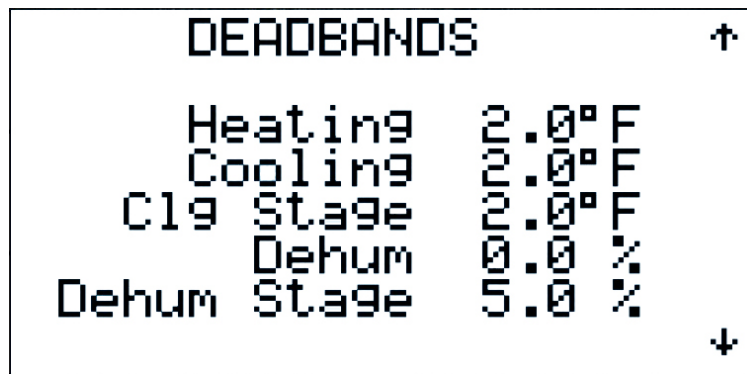

Figure 53
2.3.3.2 Tuning – Dead Bands (Figure 53)
Selecting TUNING from the SERVICE MENU displays the DEAD BANDS screen shown in Figure 53. The default settings for the dead bands can be modified on this screen. The Heating Deadband value is subtracted from the Zone Temperature Setpoint from section 2.2. This value is the heating setpoint that enables the aux air heating output. It is also the heating setpoint for the Air Heating PID loop. The Cooling Deadband value is added to the Zone Temperature Setpoint. This value enables the first cooling stage. The Cooling Stage is then added to the first cooling stage value to enable the second